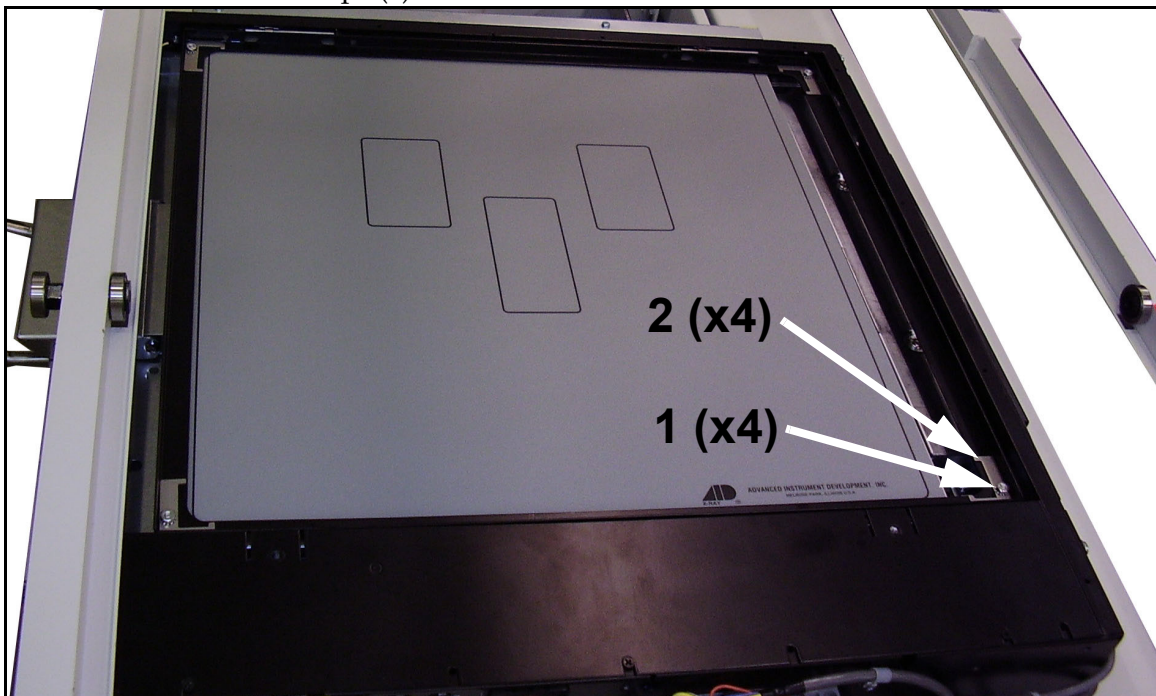

Figure 2-22. Grid Screws & Clamps
- 40** Unscrew the four clamp screws (1 in Figure 2-22) and remove the clamps (2).